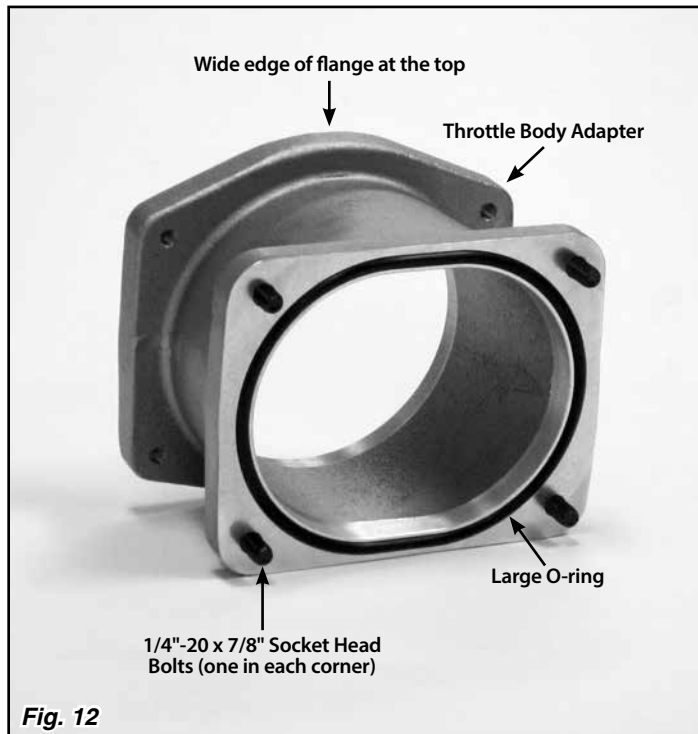

Fig. 12
Step 11: Install one of the large O-rings into the groove on the oval side of the throttle body adapter. Place a 1/4"-20 x 7/8" socket head bolt into each of the four flange holes on the oval end of the throttle body adapter. **Fig. 12**